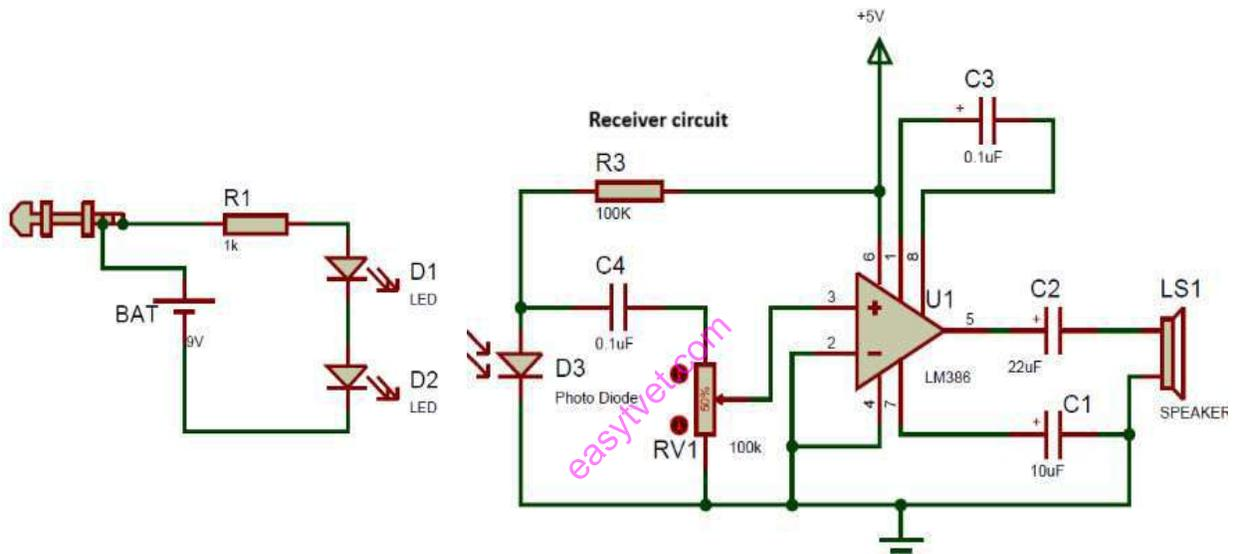

Figure 1
**TASK:** Figure 1, show a layout of audio transmitter and receiver. An input jack is connected to the audio output and transmitted wirelessly from the transmitter circuit to give an audio output on the receiver circuit speaker.